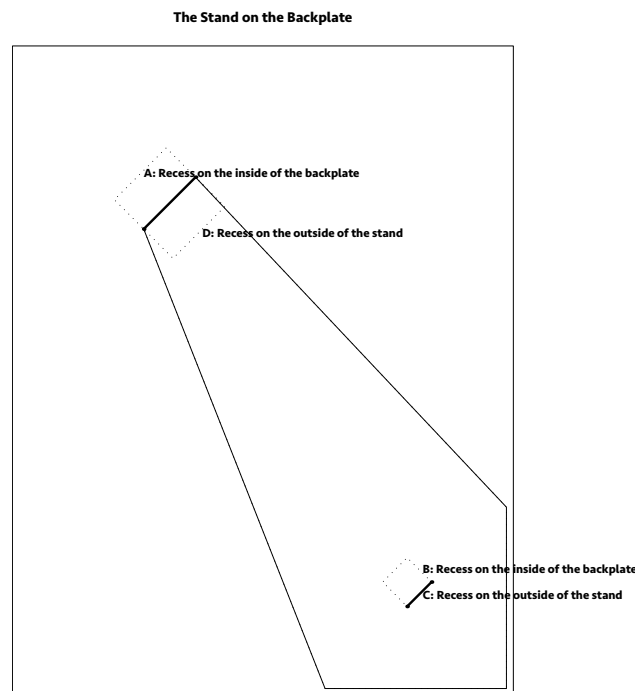

Figure 2 The stand placed on the back board
- Place the stand on the second board as indicated in figure 2, ca. 2 mm from the bottom and from the side.
- For the hinge material we need to make a recess on the inside of the backboard: Its size is the length of the incision and about 12 mm wide. Cut lightly into the board and pull out the top layer. Make another recess at the other incision again on the inside of the backboard sized 10 × 10 mm. On the stand's **outside** we make a recess at the top end with a width of about 12mm. On the **outside** at the lower end we make a recess of approx. 10 × 10 mm. See also in figure 2.